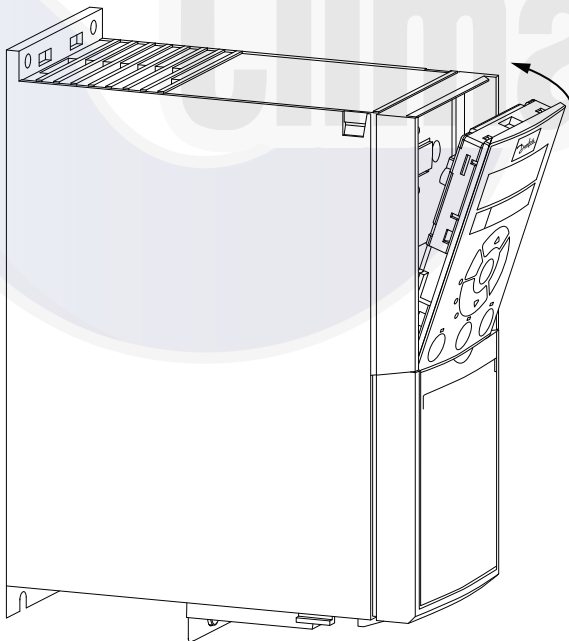

Fig. 58 - Secure Keypad in Place
2. Push the top of the VFD keypad into the variable frequency drive as shown in Fig. 58.